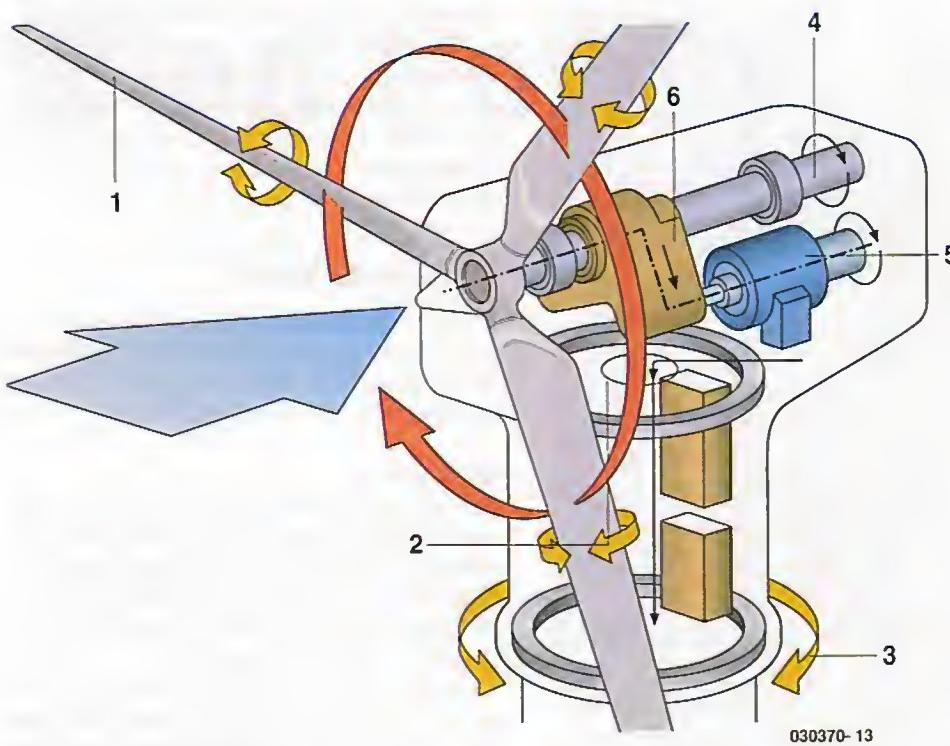

Figure 2. Basic design of a 3-blade turbine.
Two-bladed turbines are more common as they produce a higher maximum speed, although the three-bladed design of Figure 2 makes for greater stability and so more vibration-free operations. The power produced is proportional to the square of the blade diameter which means that - for a standard horizontal axis turbine - doubling the area of the circle traced by the rotating blade tip, doubles the power generating potential.
In Figure 2, the three-blade turbine (1) can have the attitude of its blades altered. By changing the pitch (2) the blades can operate at maximum efficiency in changing wind conditions.